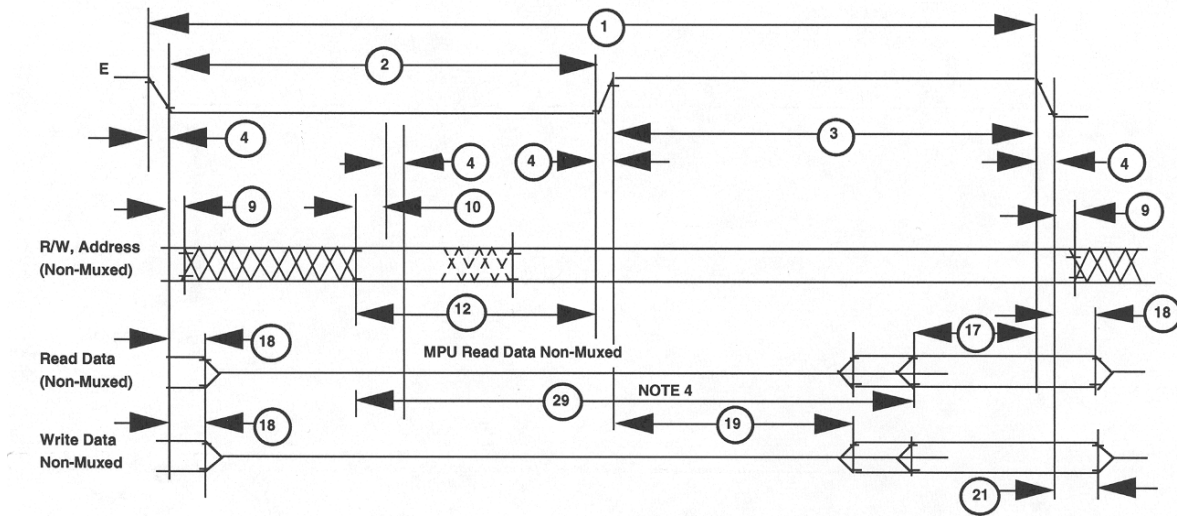

Figure 3-4. Read/Write Timing Diagram
A 4 MHz crystal is utilized with the internal clock circuitry to obtain 1 MHz operation. The (E) enable pin on the MPU supplies the clock for both the MPU and the rest of the system. Figure 3-4 is a typical timing diagram for write and read cycles.